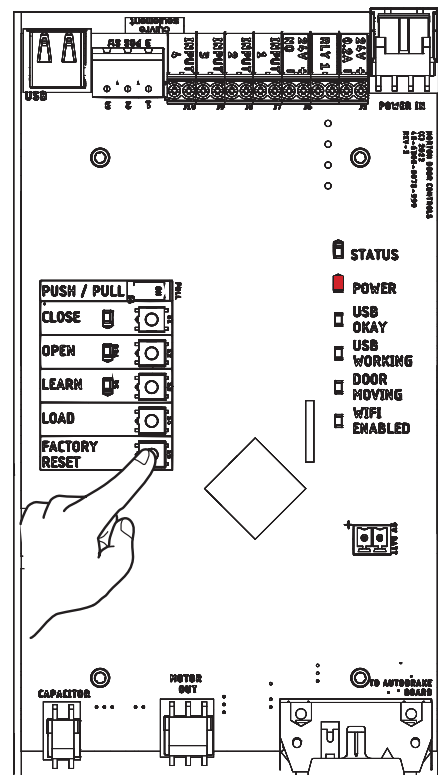

Figure 2
3. Use supplied green connectors to wire in any devices needing outputs, such as electric strikes. (Figure 2) See Input Connections and Output Connections on page 11 for information.
4. Turn on building power feed. Press and hold Factory Reset button until all LEDs are lit then release. (Figure 2)
NOTE: After Factory Reset, on control board there should be one solid red LED for POWER and one white LED that flashes every 1.5 - 2 seconds for STATUS. CLOSE button of Setup Buttons should be flashing orange continuously. (Figure 2)